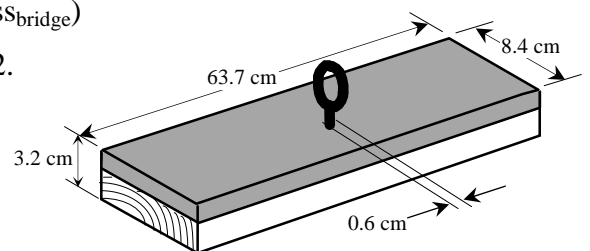

Fig. 2. Testing device. The steel ring has a 2.5 cm diameter.
4. Bridges shall be tested by hanging weight on them until they are destroyed. The padded testing device (Fig. 2) shall be used for all testing. The device will be placed on the bridge roadbed with the steel ring facing down, so that it extends *through* the roadbed. Mass will be added to the ring (in 2 kg increments, but starting at 10 kg) until the bridge collapses. The testing device has a mass of about 500g, and can be examined during Dr. Pogo's office hours. (Greene 232, TR 9:30-11:30).